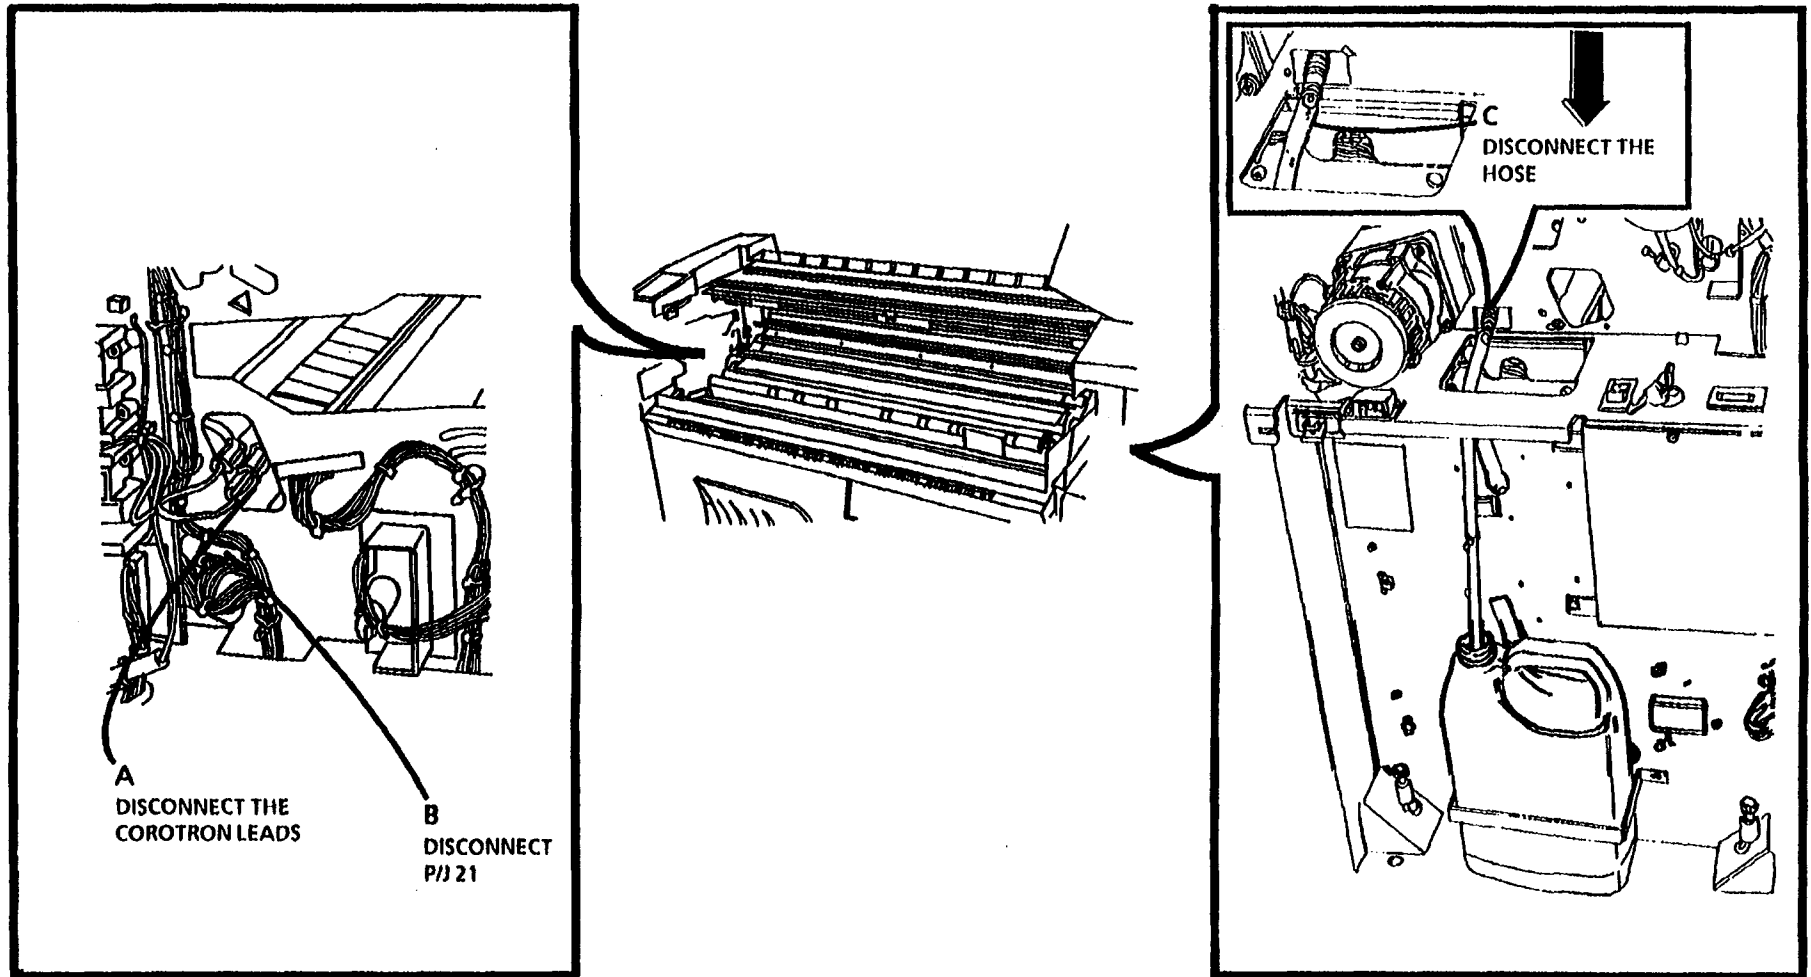

Figure 1. Prepare to Remove the Media Transport Module
4. (Figure 1): Prepare to remove the Media Transport Module.